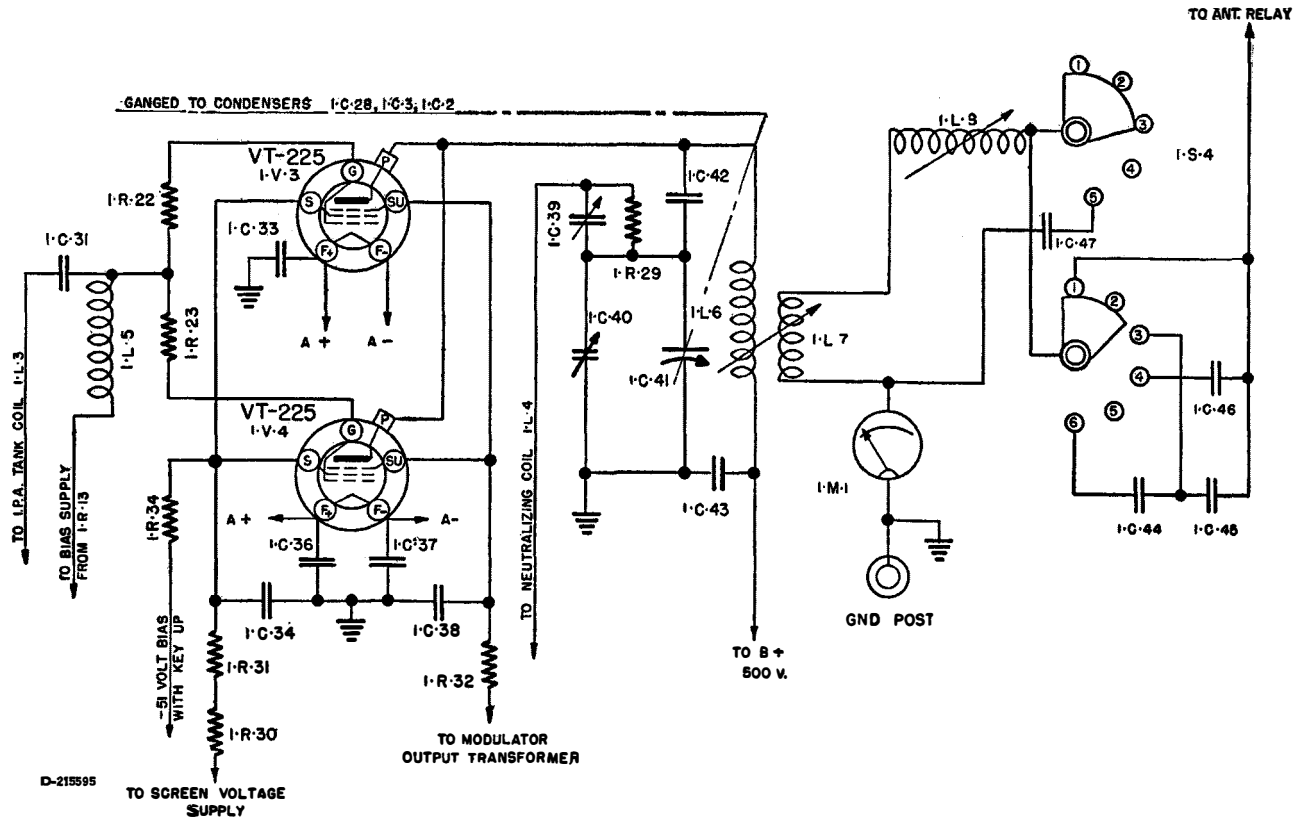

FIG. 16. POWER AMPLIFIER OUTPUT CIRCUIT
b. Power Amplifier Output Circuit:— (FIG. 16)
- (1) Power amplifier Tubes VT-225 (1-V-3 and 1-V-4), function as a class C radio frequency amplifier and are connected in parallel for high power.
- (2) The series resistors (1-R-22 and 1-R-23) function as parasitic suppressors. A combination of fixed and automatic bias is supplied through radio frequency choke (1-L-5) and a resistor network, resistor (1-R-13) furnishing fixed bias from negative 51-volt supply, and resistors (1-R-14 and 1-R-16), the automatic bias.
- (3) The screen grids are by-passed by capacitor (1-C-34). The screen voltage is obtained from the +500-volt supply through resistors (1-R-31, 1-R-30, 1-R-25, 1-R-26 and 1-R-27).
- (4) The suppressor grids are by-passed by capacitor (1-C-38). The modulator voltage for suppressor grids is obtained from negative 51-volt supply through dropping resistor (1-R-32) and the secondary of the modulation transformer (1-T-2).
- (5) The plate circuit is comprised of coil (1-L-6) and capacitor (1-C-41). Tracking is made pos-